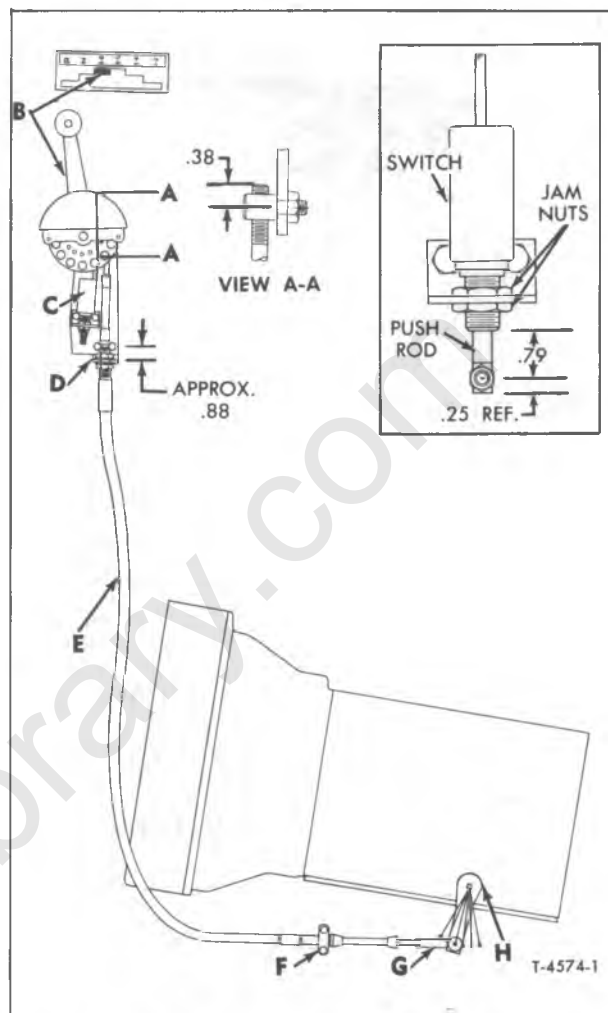

Figure 16—Manual Range Selector Linkage (TG50)
2. To facilitate installation of TV Linkage Adjustment Gauge (J-23739) disconnect manual range selector linkage at transmission by removing clevis pin from shift lever (H, fig. 16).
11. Remove gauge from transmission and connect clevis (G, fig. 16) to shift lever (H).
Manual Selector Linkage Adjustment - TG50 (Refer to Fig. 16)
1. Locate transmission selector lever (B) against stop in "3-6" position.
2. Check cable for dimension shown in View A-A, figure 16, and adjust if necessary. Anchor cable to bracket at point (D).
(Refer to Fig. 16)
3. Move lever (B) to "N" (Neutral) position, then referring to Inset, figure 16, loosen jam nuts and adjust length of push rod to dimension shown.